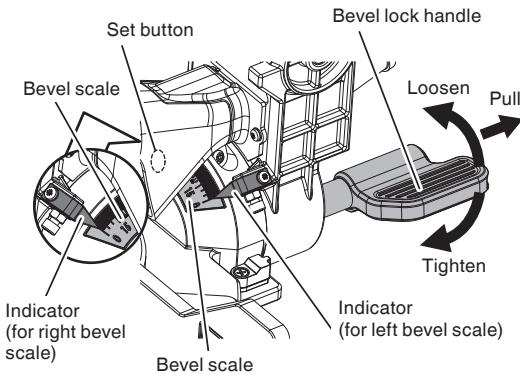

Fig. 22
- (1) Loosen the bevel lock handle and bevel the saw blade to the left or to the right. When tilting the motor head to the right, push the set button.
- (2) Adjust the bevel angle to the desired setting while watching the bevel angle scale and indicator, then secure the bevel lock handle. When contacting the work bench and the main body, pull the bevel lock handle in the direction of the arrow mark as illustrated in Fig. 22, and change the direction of the bevel lock handle.
- (3) Turn the LED light on and position the workpiece on the table for pre-alignment of your cut.
- (4) By using angle block (A) and angle block (B), you can easily set up bevel angles of 33.9°, 45°, or 48°. For details, see the "Bevel angle 33.9°, 45°, 48°" section on page 19.